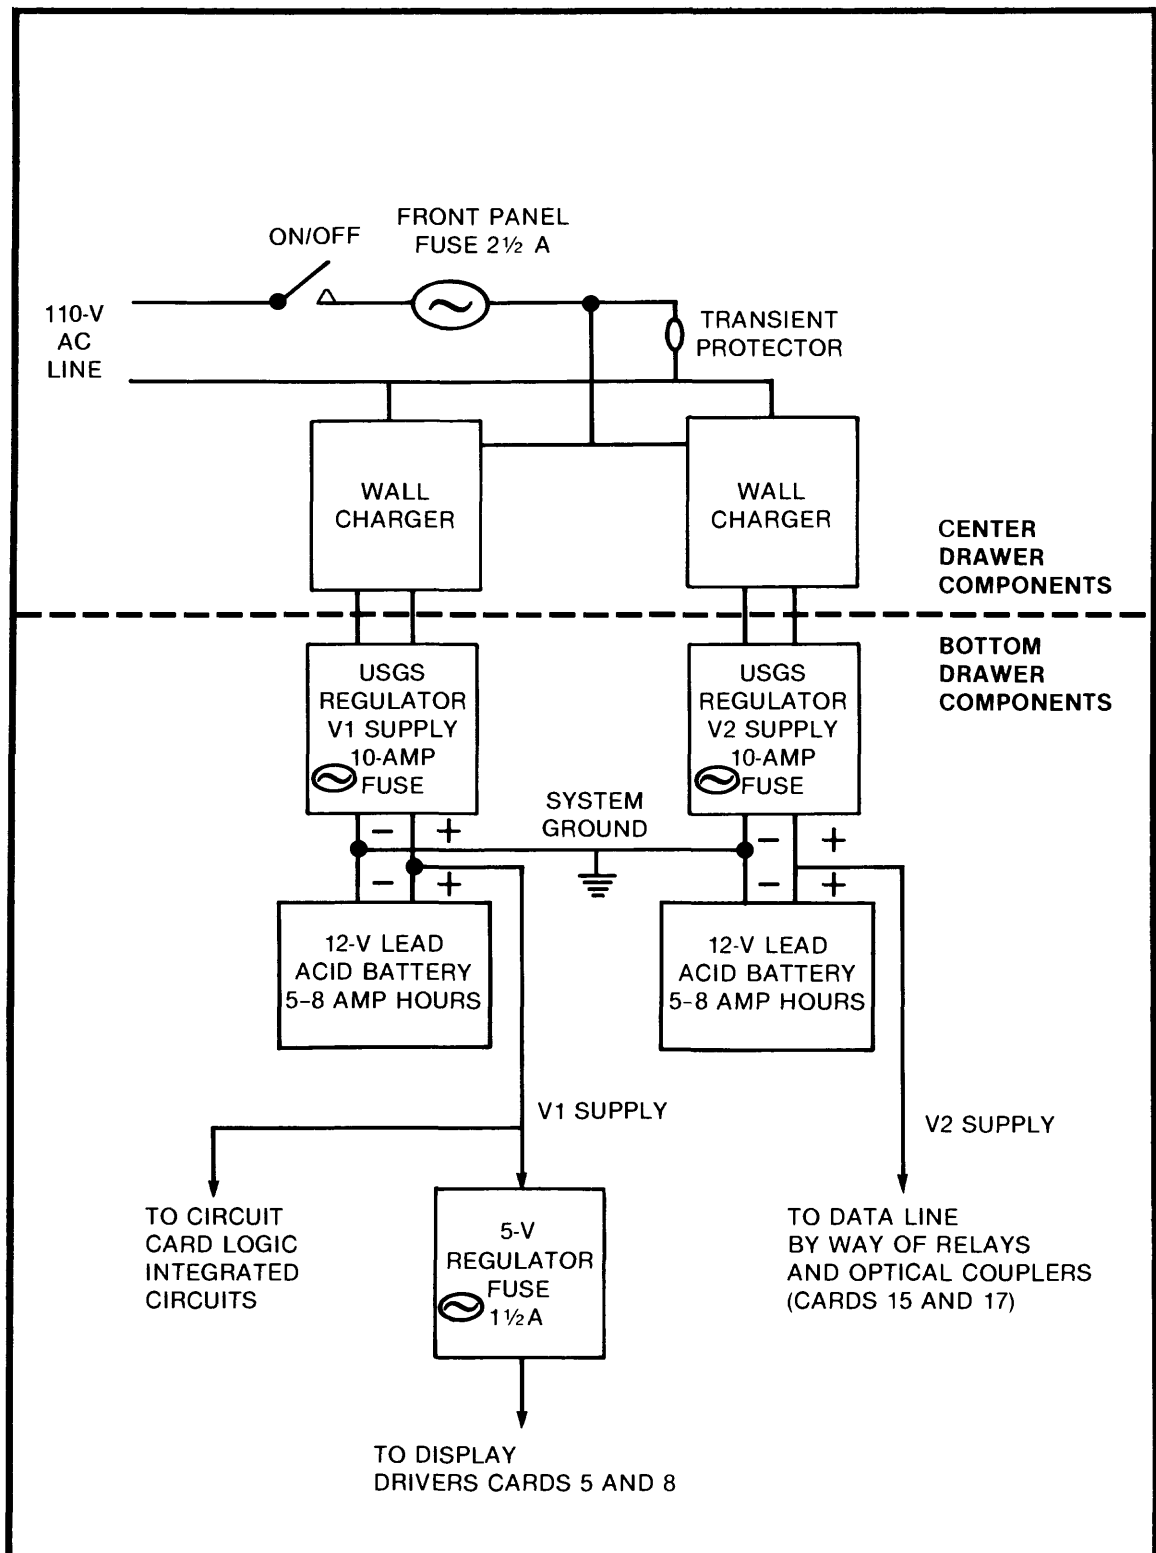

Figure 6.--Block diagram of power supplies.
The console's three power supplies are: The V1 that powers the logic on the circuit cards, the V2 that powers the digitizers, and the 5-volt supply that powers the displays on both the console and the lockmaster's remote display. The V2 power supply was added to the system to isolate the digitizer cables running to the console from the logic circuits. This isolation is necessary because the long cables connected to the console often pick up transients that can destroy integrated circuit (IC) logic chips. Data pass between the V2 and V1 systems by way of optical couplers and relays, affording several thousand volts of isolation between the two systems. The 5-volt supply is derived from the V1 supply by a regulator in the bottom drawer of the console. The 5-volt output of this regulator is then routed to cards 9 and 13 and the displays. Figure 6 shows how the supplies are connected and the location of the fuses in the system. For more information on the charger regulator used to charge the V1 and V2 batteries, see the operating manual for the USGS regulator.
Refer to section 3.7 and figure 6 for an operational description of the power supplies. If the V1 supply is low, the recorder motor will run slowly. If V1 has totally failed, the console will appear dead. Failure of the V2 supply will cause the data from the digitizers to read zero. Instructions for the rechargeable power supplies used in the console can be found in the USGS operating manual for the regulator. The test procedures below will determine whether there is power supply trouble and the nature of the trouble.